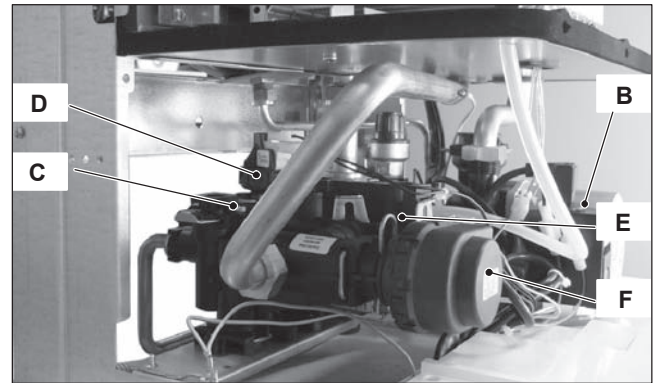

Figure 7.3
- 3 Remove the pump B in Figure 7.3 (see section "Removal pump" page 17).